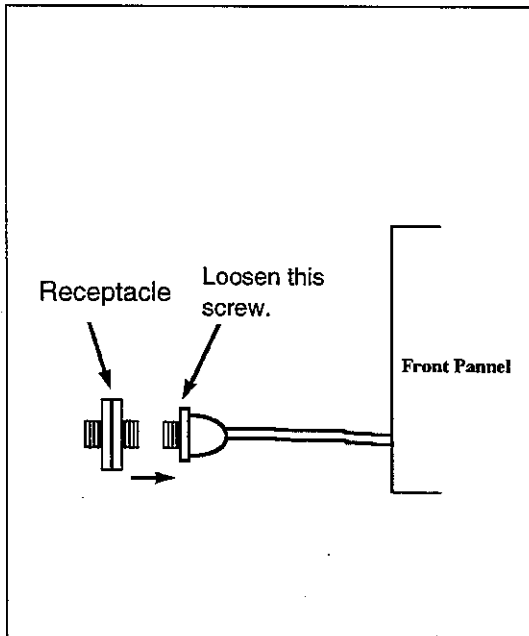

Figure 2-4 Connector Cleaning (3)
- (3) Loosen the connector screw on the back of the receptacle and disengage the receptacle from the connector. (See Figure 2-4.)